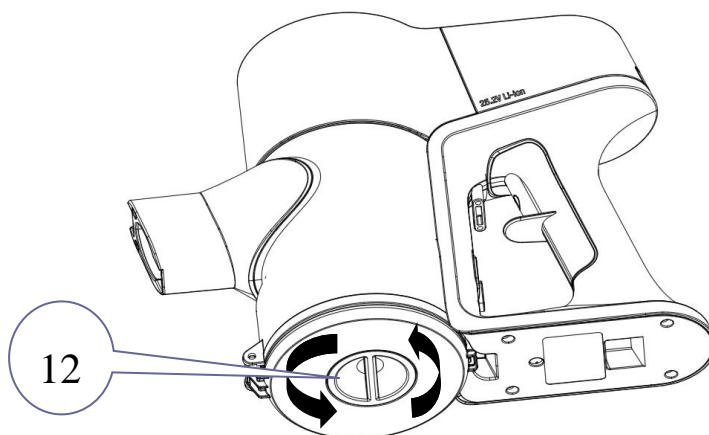

Figure 6-9
6.7 Clean the HEPA Filter with the dust scraping knob (No.12). After being used for some time, dust will stick on the surface of the HEPA Filter, turn the knob to make the dust drop into the dirt cup. See Figure 6-9.